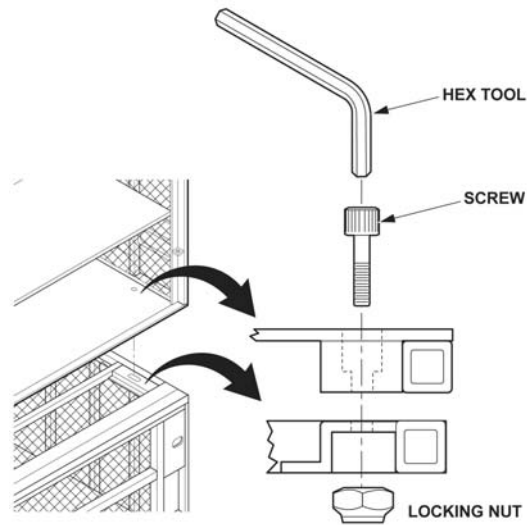

Figure 3-17. Disconnecting the Portable Cages.
4. Using the hex tool, loosen the four screws located in the floor of the top unit. Open the bottom unit door to catch the locking nuts. Twist the locking nuts free from the inside of the roof on the bottom unit. Refer to Figure 3-17.